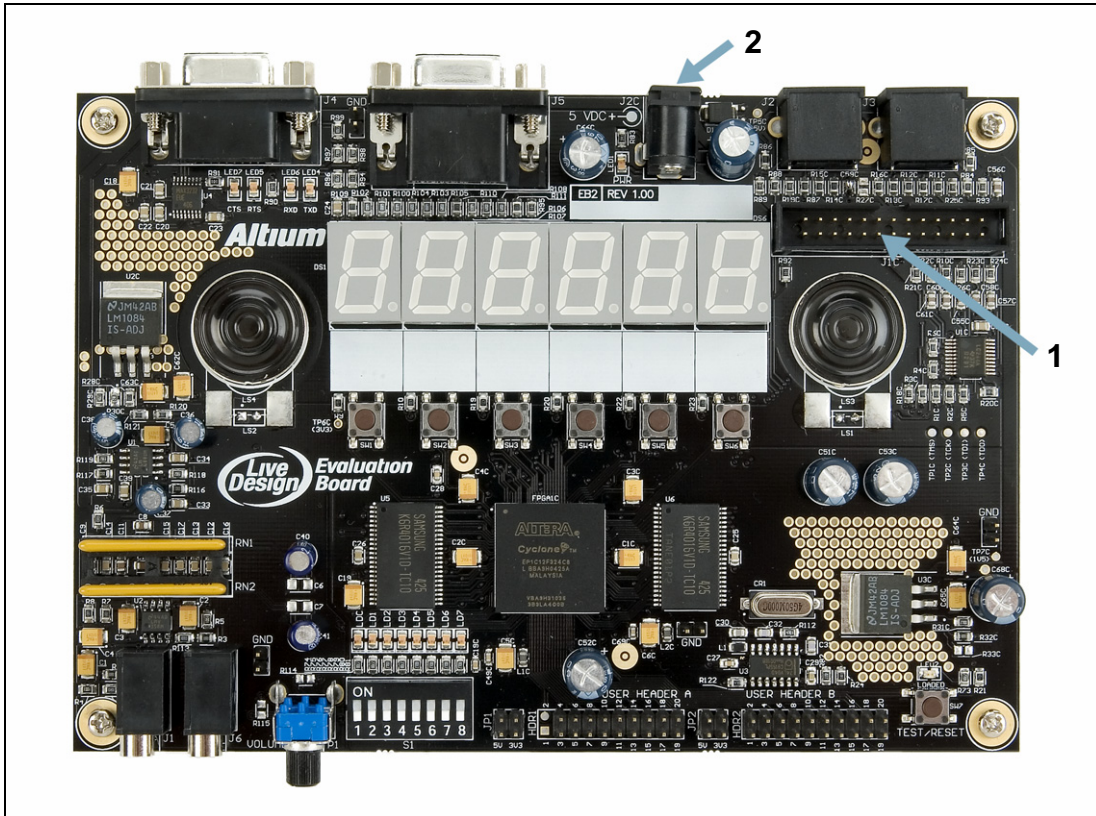

Figure 4. The LiveDesign Evaluation Board, 1 = Parallel header socket 2 = Power supply socket
The LiveDesign Evaluation Board gets connected to your PC via the computer's parallel port. The picture in Figure 4 shows an image of the LiveDesign Evaluation Board highlighting the location of the main components addressed during installation.
1. Connect the LiveDesign Evaluation Board to your PC using the parallel cable supplied, via the parallel header socket, pointed out in Figure 4.
2. Power the board using the 5 volt DC power supply via the power supply socket pointed out in Figure 4. Once powered the power indicator LED will illuminate.